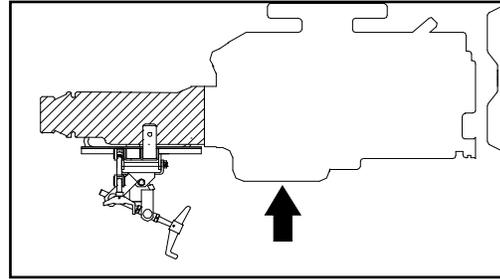

Fig. 4: Support engine
8. Before unbolting transmission from engine, support engine with stand, or other appropriate device (Fig. 4).